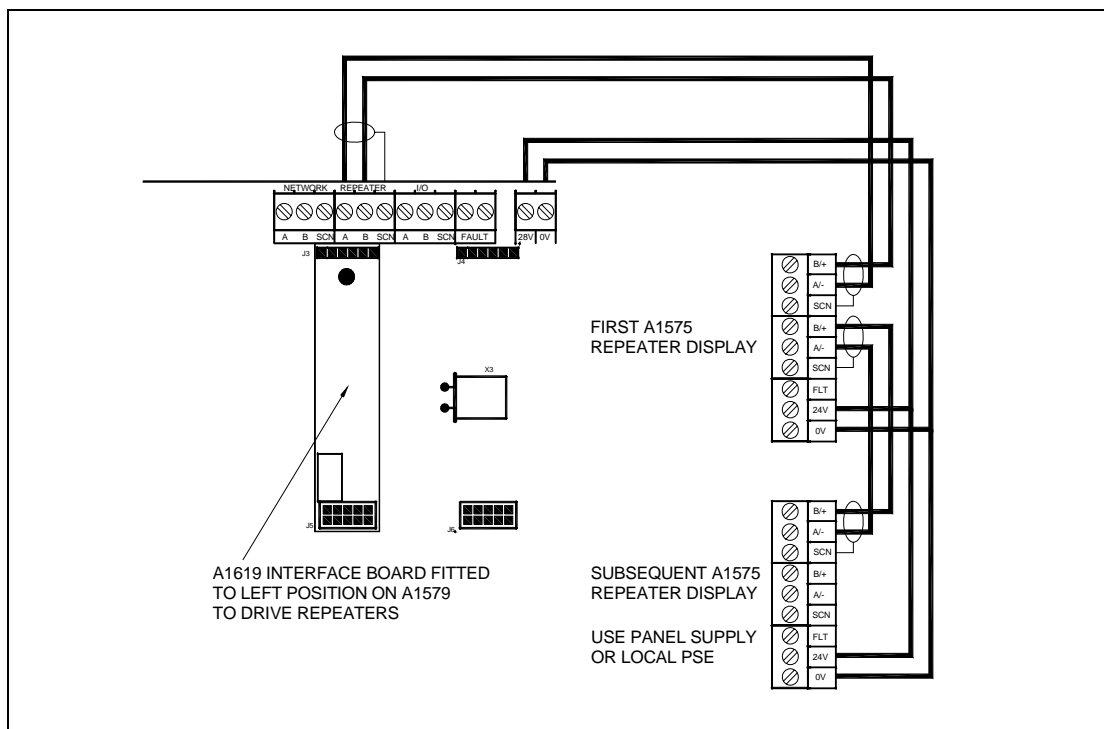

Figure 3 – Repeater connection diagram
2. Connect the repeater RS485 wiring as shown in Figure 3.
3. If the repeater is to be powered from the panel connect the 28V auxiliary output from the motherboard to the A1575 repeater display. This is also shown in Figure 3.